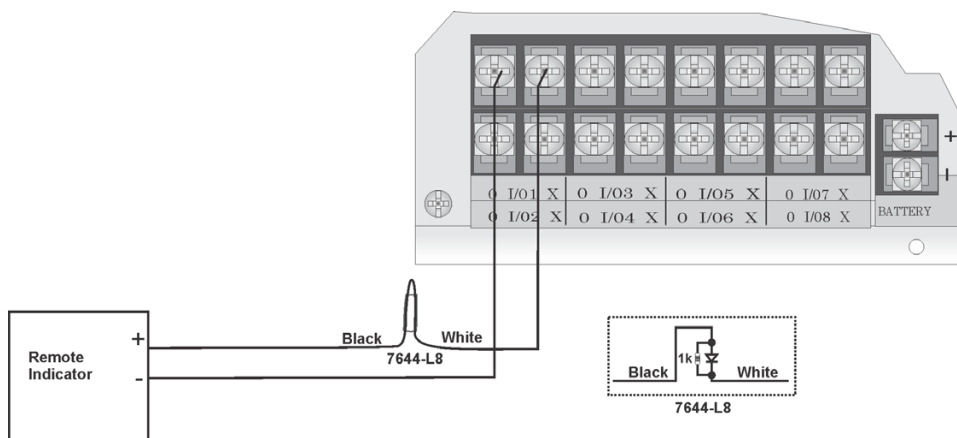

Figure 4-46 Polarity Reversal Connection Using the 7644
1. Wire the 7644-L8 to the control panel as shown in Figure 4-46. Do not install an EOL resistor on the terminals of the Flexput circuit used.